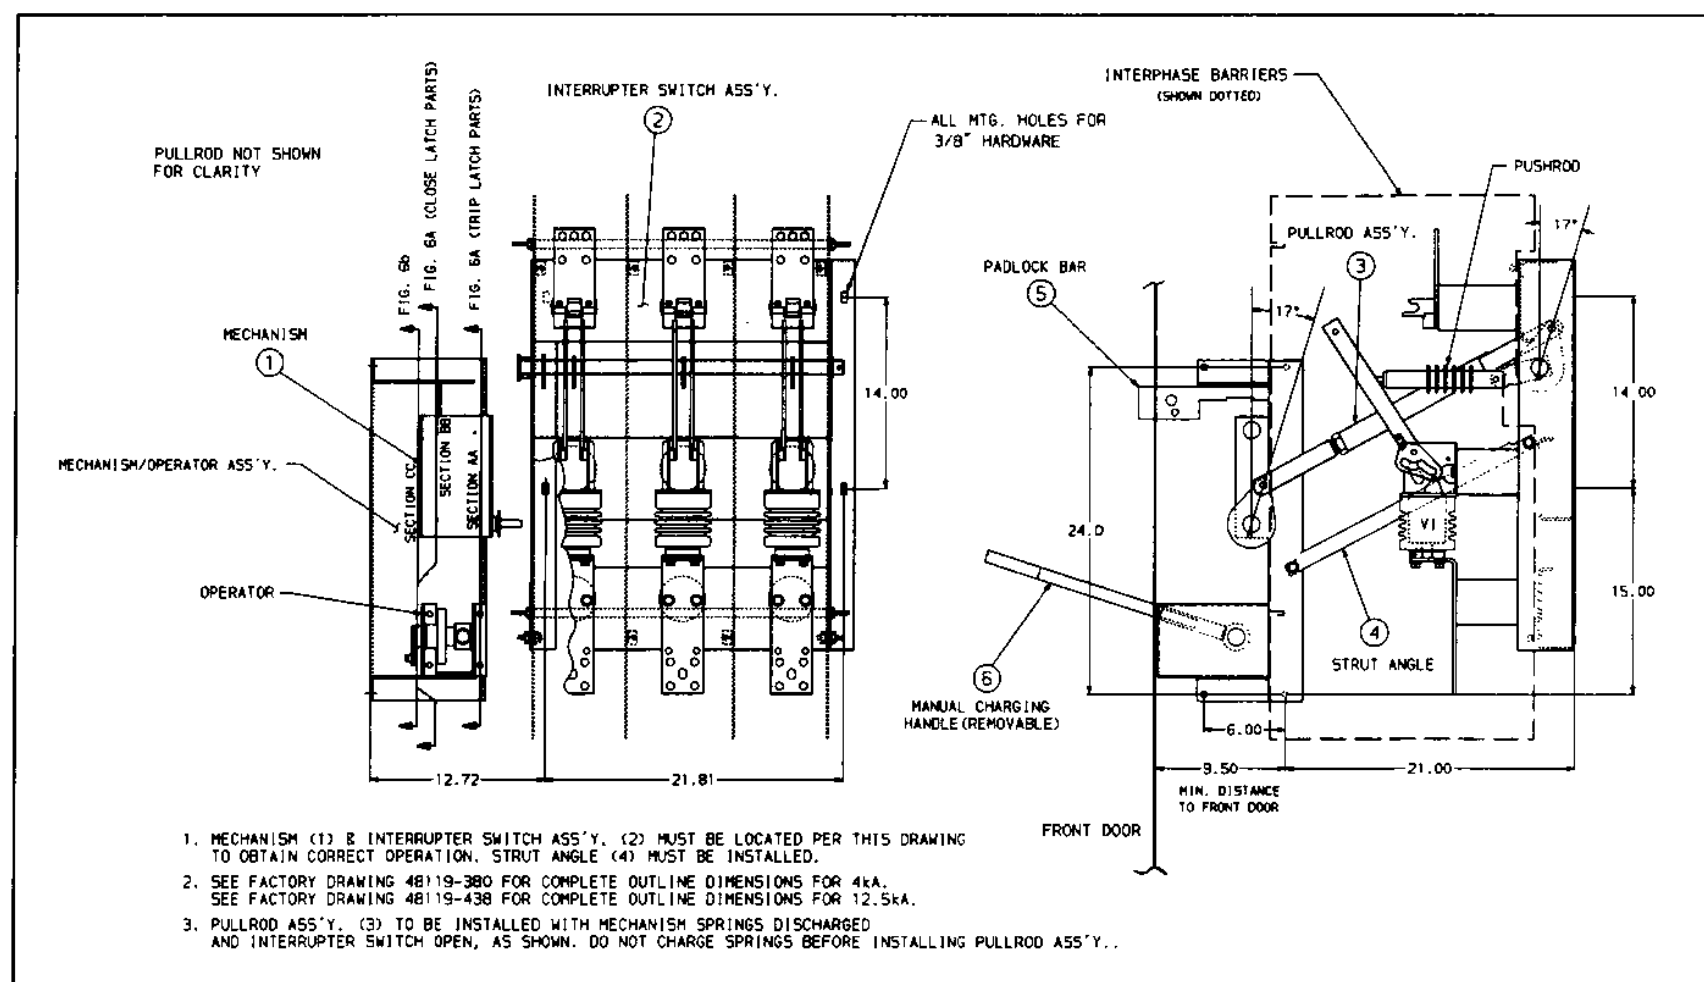
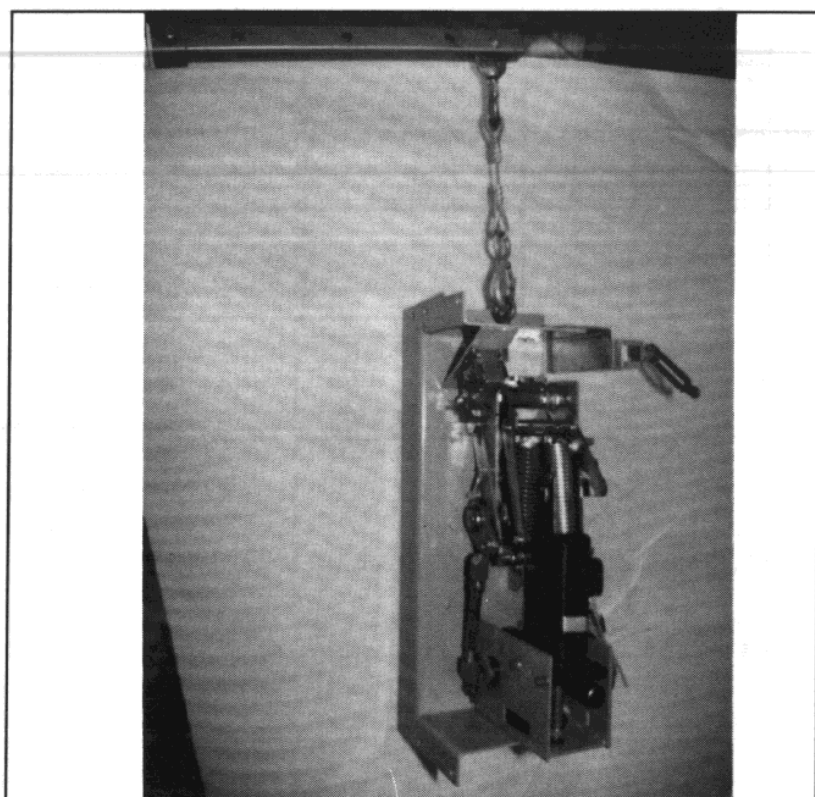

Figure 1
Figure 3a
These instructions cover the operation and maintenance of Type B VISI/VAC Circuit Interrupters. Type B has the stored energy mechanism mounted separately from the 3-phase switch base interrupter assembly. See Figure 1 for major component identification for Type B Circuit Interrupters.
If the purchaser of these VISI/VAC Circuit Interrupters is an OEM manufacturer, then he will need to install them in his equipment (per Figure 1) and adjust per section 14 of these instructions. See Figures 3A and 3B for lifting instructions and weights for the VISI/VAC components.
- h. The mechanism output shaft (#11) closes the VISI/VAC Circuit Interrupter through the pull rod assembly (#3 on Figure 1).
- c. Force of the opening spring rotates the mechanism output shaft (#11) clockwise (CW) and opens the VISI/VAC Circuit Interrupter through the pull rod assembly (#3 on Figure 1).